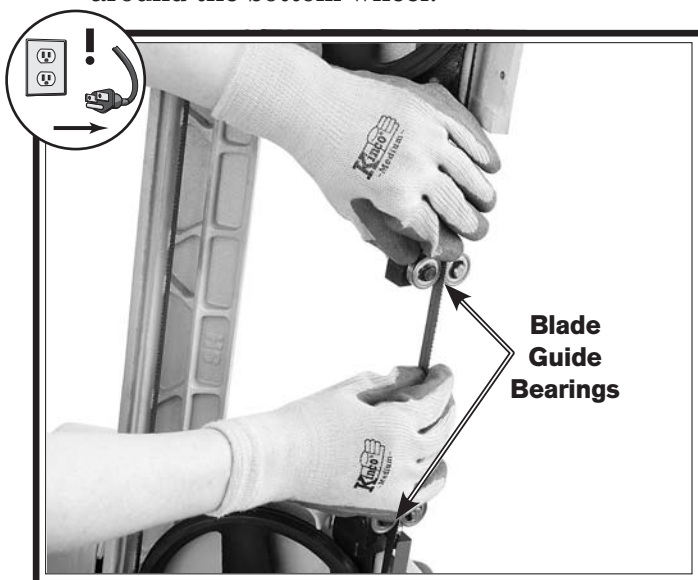

Figure 29. Installing blade.
4. Install the new blade through both blade guide bearings, as shown in **Figure 29**, and around the bottom wheel.